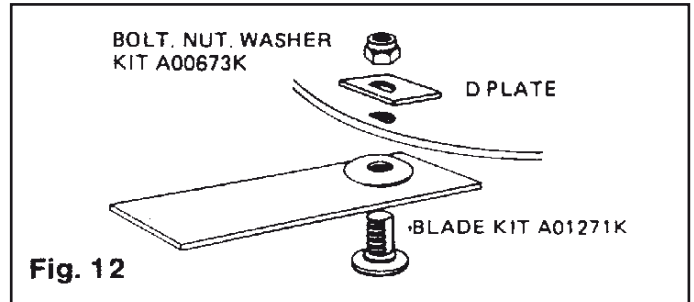

Fig. 12
5. Fit new blades and fasteners together in sets for safety and balance. Take care to assemble parts in correct order. (Fig. 12).